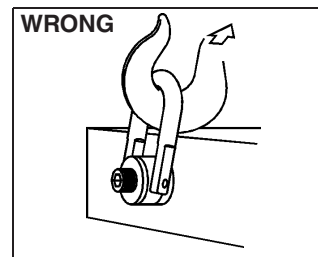

Figure 2
- Apply partial load and check proper rotation and alignment. There should be no interference between load (work piece) and hoist ring bail (Fig. 2).
1. **ASTM A-563** (A) Grade D Hex Thick